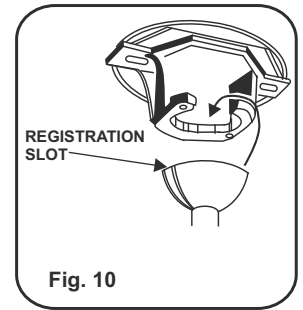

Fig. 10
Step 6. Now lift motor assembly into position and place hanger ball into hanger bracket. Rotate until the check groove has dropped into the registration slot and seats firmly.(Fig 10)Rod should not rotate if this is done correctly.